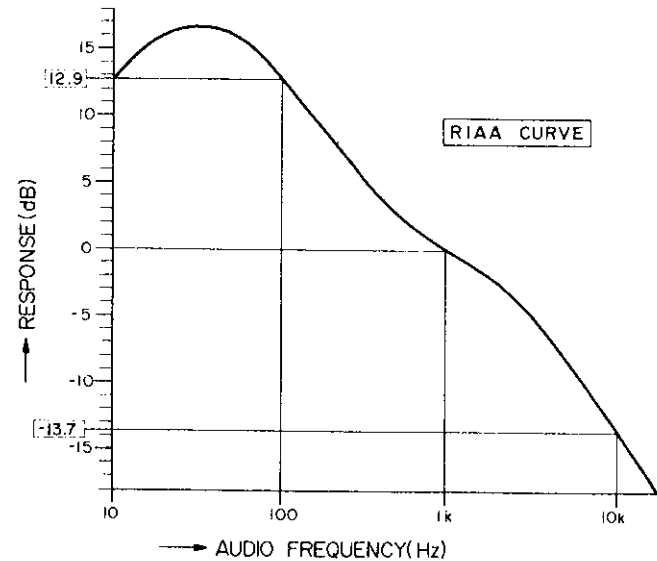

Figure 8
STEP 1 Check the PHONO Equalization Response. (See Figure 8, RIAA Curve.)